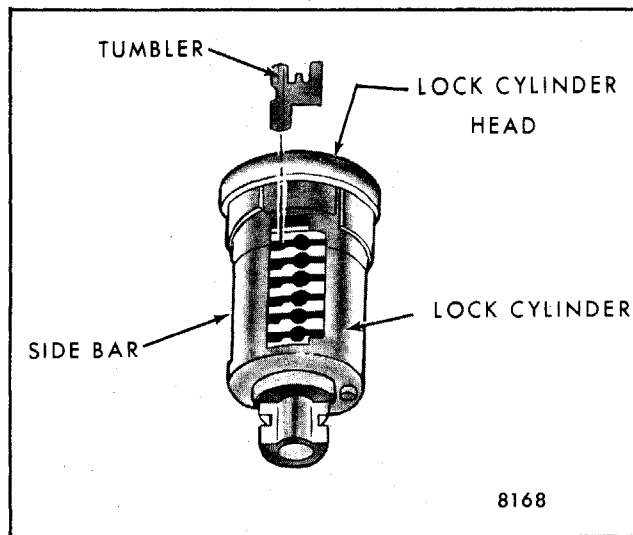

Fig. 1-5-Installing Tumblers
2. Starting at open end (head) of cylinder, insert tumblers in their proper slots in the order called for by the code, as shown in Figure 1-5.
3. Pull out side bar with fingers so that tumblers will drop completely into place (Fig. 1-5). Insert one tumbler spring in space provided above each tumbler.